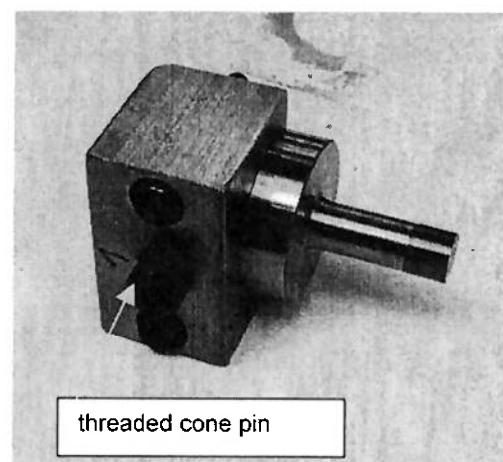

Fig. 2:
3. Insert the stamp in the die holder outside the line. Fig. 2
4. Tighten the threaded cone pin; torque = 12 Nm, thus fixing the stamp in the holder. Fig. 2